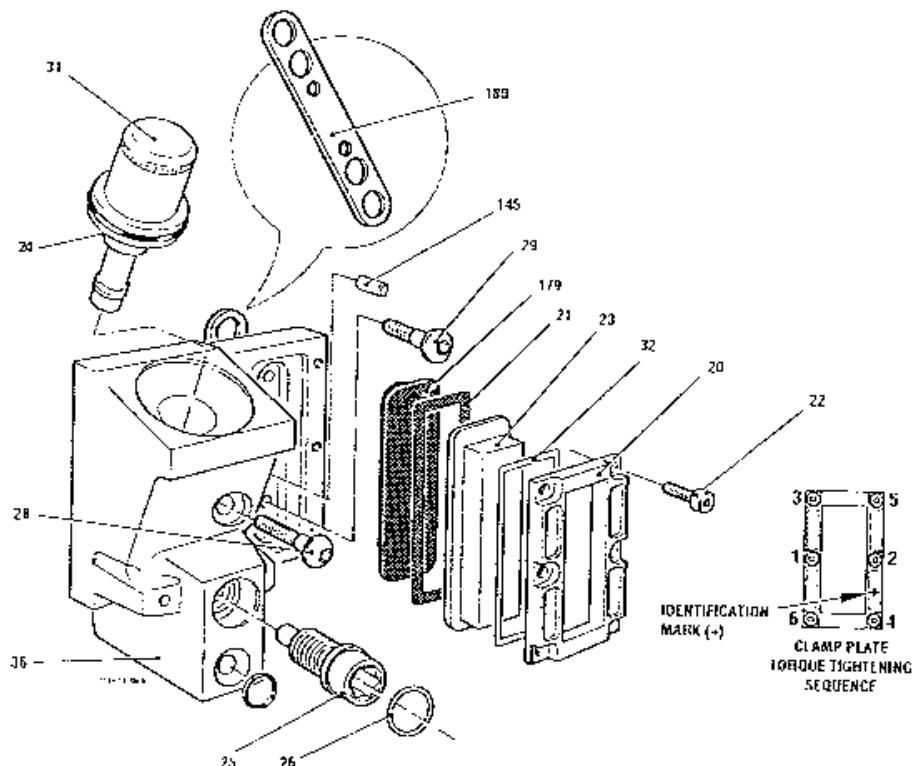

Fig. 3.20 Screw Cap Filler Assembly
#### 3.8.1 Screw Cap Filler Assembly (Fig. 3.20)
2. Position the keyed filler on to the sump and secure the key filler assembly to the base of the sump assembly with one screw (183) through the lower block (155) and valve block (156) and one screw (178) through the valve block (156). Fit the top block (157) to the sump assembly with the two screws (158). Torque tighten the screws (158) to 2 Nm and then torque tighten screws (183) and (178) to 2 Nm.
3. Ensure that two locating dowels (145) are fitted in the dowel holes in the sump, then fit the seal (180) to the two dowels and secure the window body (172) to the sump assembly with the two screws (176). Torque tighten to 2 Nm.
4. Fit the back plate (179) into the window body (172) with the small hole of the back plate nearest to the base. Fit a new window seal (21) inside the window body (172).
5. Fit the sight glass on the window seal in the window body and attach a new sight glass seal (32) around the periphery of the sight glass (23).
**Caution:** When fitting the clamp plate, loosely fit the six screws (22), then gradually tighten them in the sequence shown in Fig. 3.20. Torque tighten the screws in the sequence shown on Fig. 3.22 to 1.0 Nm.